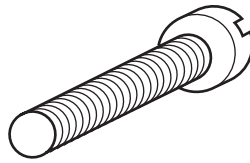

Fig. 6
- (d) Fig. 6 shows a set screw used in the assembly of the shower unit.